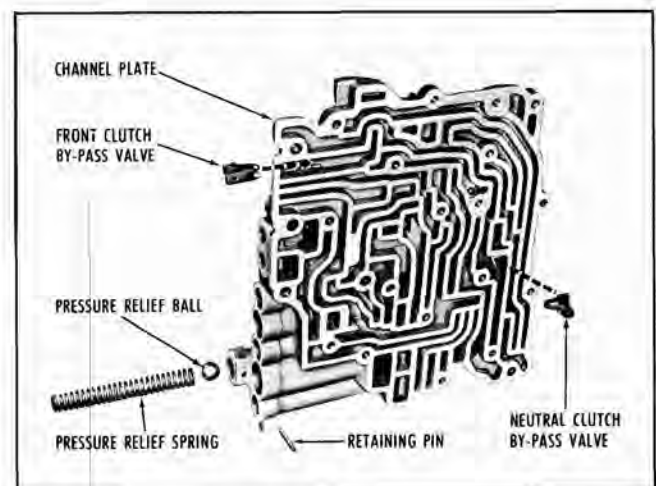

Fig. 110 Channel Plate—Exploded
2. Remove neutral clutch by-pass valve from cored side of channel plate (Fig. 110).
4. If necessary to remove pressure relief ball and spring (Fig. 110).